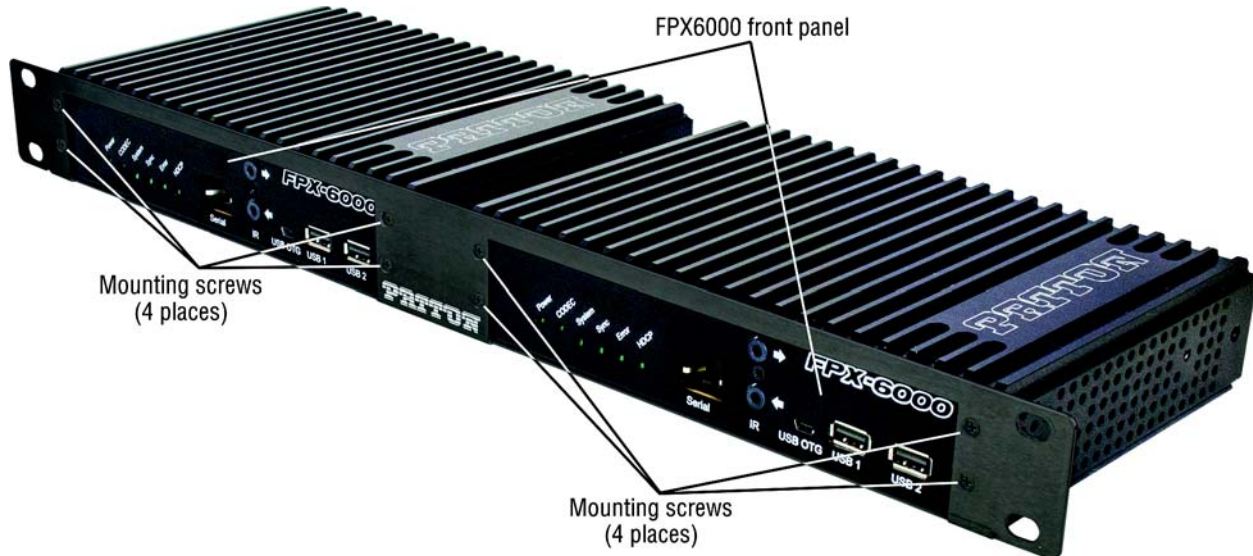

Figure 11. Two FPX6000 devices installed in a rack-mounting bracket
1. Place an FPX6000 at one of the mounting locations on the rack-mounting bracket as shown in figure 11. The front panel should be visible through the front of the bracket as shown in figure 11.
2. Use 4 mounting screws included with the bracket to secure the FPX6000 to the bracket (see figure 11).
3. If there is not another FPX6000 to install in the bracket, go to step 4. Otherwise, use the remaining 4 mounting screws to secure the second FPX6000 to the bracket (see figure 11).